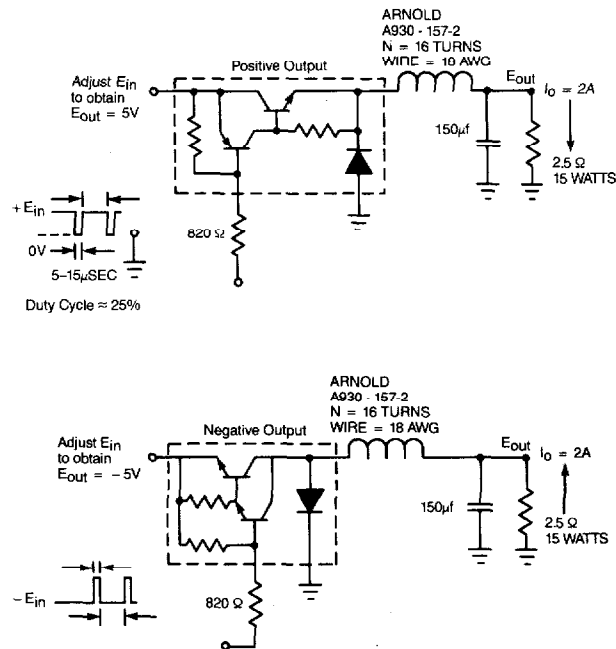

Figure 5. Burn-in Circuits
4.3.8 Power Stress — Each Hybrid device shall be burned-in using the circuit shown in Figure 5. The conditions are as follows:
Circuit and conditions as shown in Figure 5.